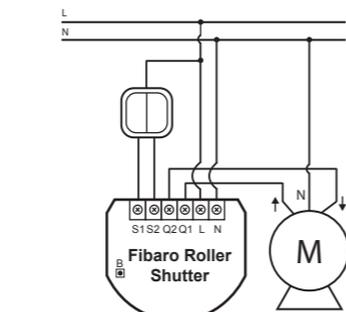
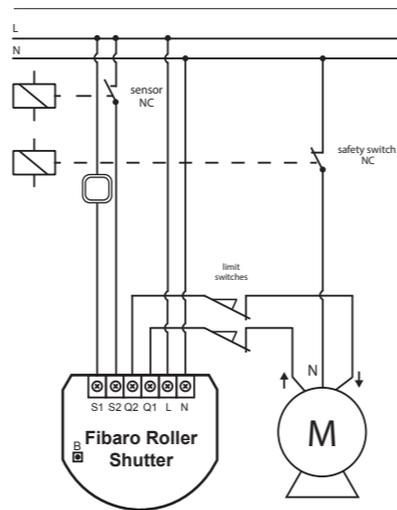

Fig. 1 Roller Shutter wiring diagram
Fig. 2 Connecting Roller Shutter to GATE motor
- Connect the Roller Shutter in accordance with the wiring diagram presented on Fig. 1 (roller blinds, venetian blinds) or Fig. 2 (gates).
1) Make sure the module is connected to the power supply, according to Fig.1
1) Make sure the module is connected to the power supply, according to Fig.1, and to the switch keys as well (S1 and S2 inputs).
- Make sure the module is connected to the power supply, according to Fig.1